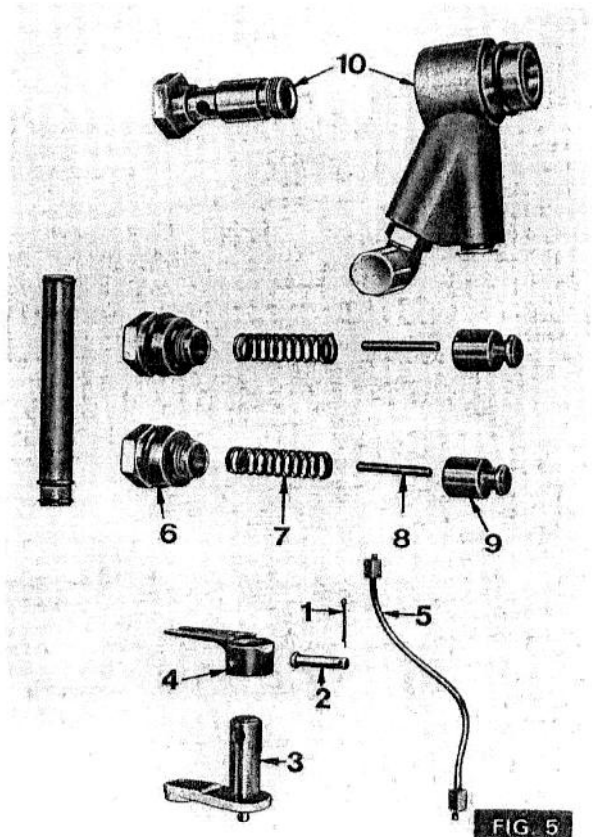

FIG. 5
4. (Fig. 5) Remove the split pin (1) and clevis pin (2) securing the spool valve operating lever (3) to the internal lever (4). Remove the levers.
5. Remove the oil pressure test pipe (5).
6. Remove the two regulator valves, i.e. cap (6), spring (7), guide pin (8) and valve (9), and the outlet manifold (10).